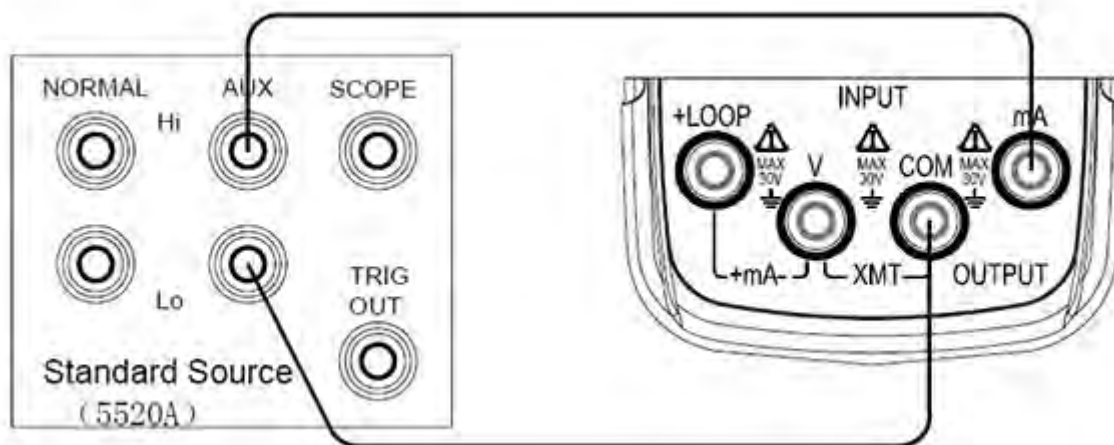

Figure 7-3
- 3. Connect the EC mAV 2 to the equipment as shown in Figure 7-3: